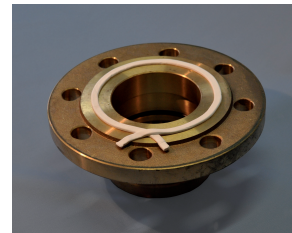

Figure 1
- Close the tape by overlapping the ends (Figure 1).